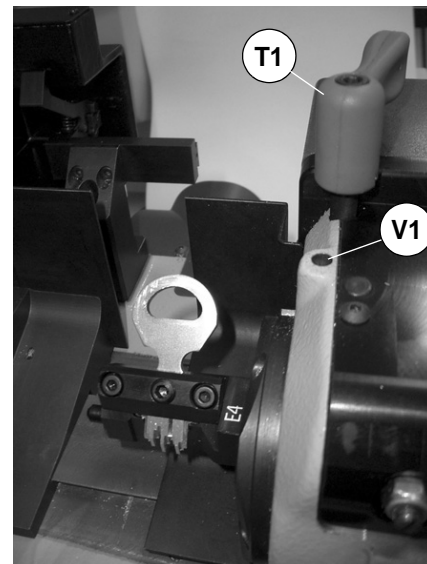

Fig. 49
- 2) Take the 'T' wrench (T4) from its seat and fit into the screw (V1), then loosen until the jaws are fully open. At the end of the operation do not remove the 'T' wrench from the screw (fig. 49).